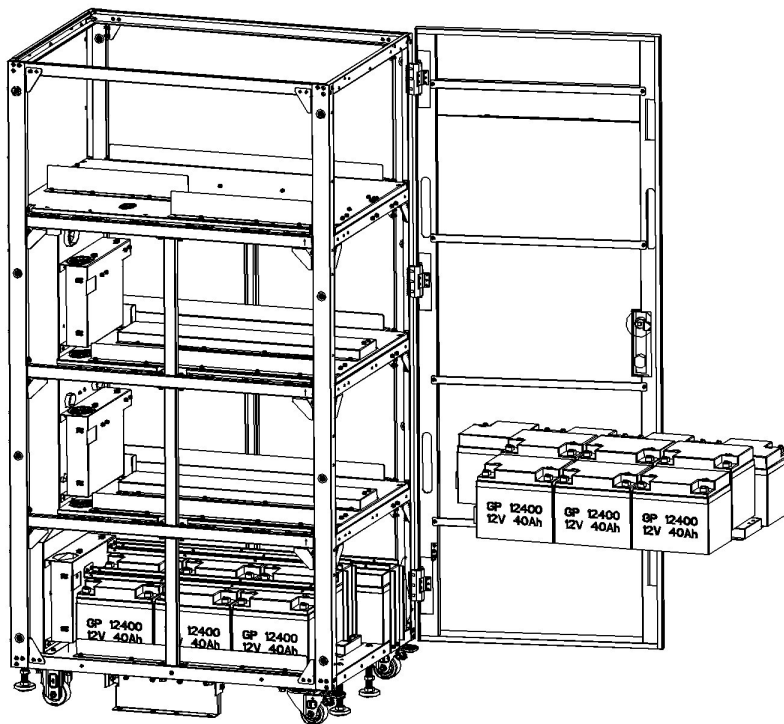

Figure 5-47
5. Reinstall 2 battery retention brackets with screws in layer 1 (Figure 5-47).
6. Install 10 battery packs in layer 2. (Figure 5-47).